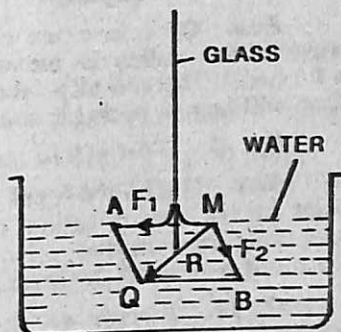

Fig. 28.8. Concave meniscus.
Ans. In Fig. 28.8 consider a molecule 'M' of water. Let force of adhesion (F_1) between the water molecule M and glass molecules and the force of cohesion (F_2) between the water molecule (M) and the rest of the water molecules be represented in magnitude and direction by MA and MB respectively. In this case of water-glass interface, $F_1 > F_2$ consequently the resultant R